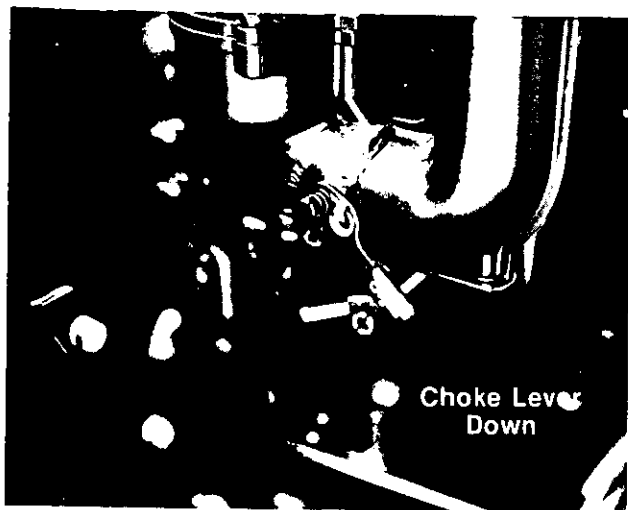

FIGURE 15.
2. Push the "CHOKE" lever down all the way. Set the throttle in the "FAST" position. See figures 15 and 16.